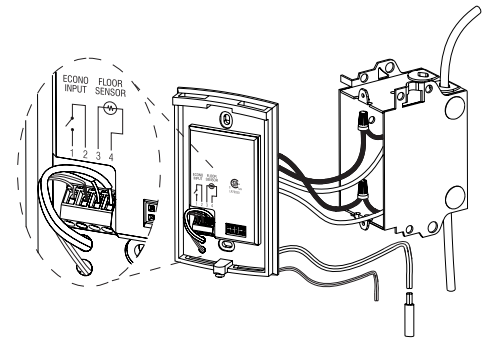

Figure 2
- 2 For floor heating applications, insert the floor sensor wires through one of the two holes below the terminals (figure 2) and connect the wires to terminals 3 and 4 (no polarity).
- 3 If you wish to use a remote controller such as the CT240 or CT241, insert the cable (use 18 to 22 gauge flexible wires) into one of the two holes available below the terminal board and connect to terminals 1 and 2 of the base (figure 2).